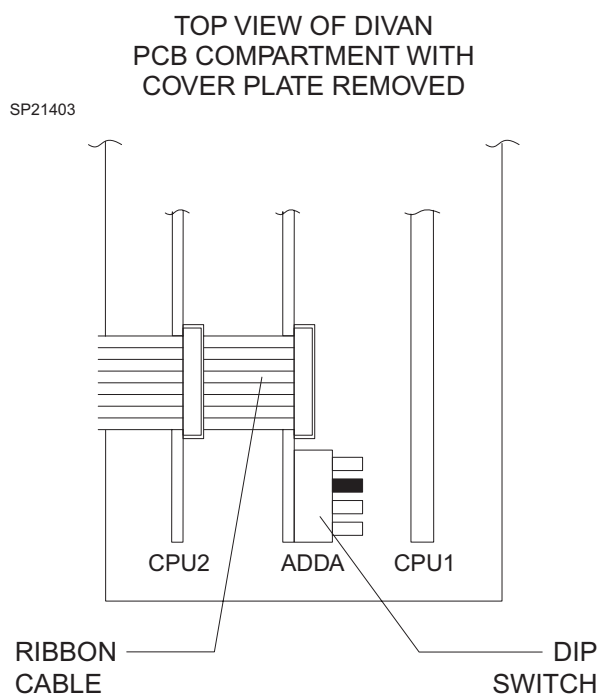

FIGURE 3. DIP Switch Locations
- 2.12 Remove the ribbon data cable from CPU2 and ADDA PCBs. Ref. Figure 3.
2.26 Total Hours: Using a non-conductive tool, set the third DIP switch on the ADDA PCB to the down position. See Figure 3. Turn the rotary knob to display **Total Hours**, then press the knob to confirm selection. Reenter the total hours information as follows: